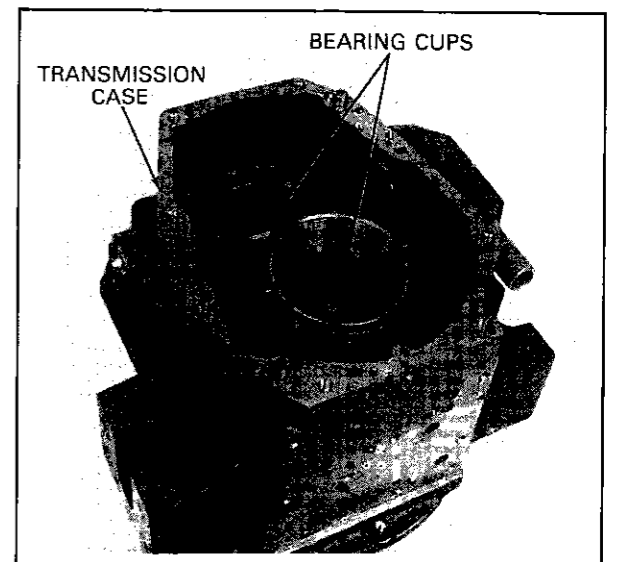

FIG. 34 COUNTERSHAFT FRONT CUP INSTALLATION
33. Assemble the countershaft front bearing cup into the lower bore of the case (Fig. 34).
37. Position the case on its front face and install the output shaft bearing cup into the bore of the case (Fig. 34).